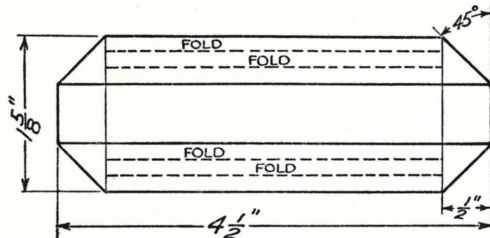

Fig. 130—Working drawing for the handle
7. Lay out the design for the handle. The length of the metal should be about $1\frac{1}{2}$ times the distance between the two places where it is to be fastened to the top. (See Fig. 130.)